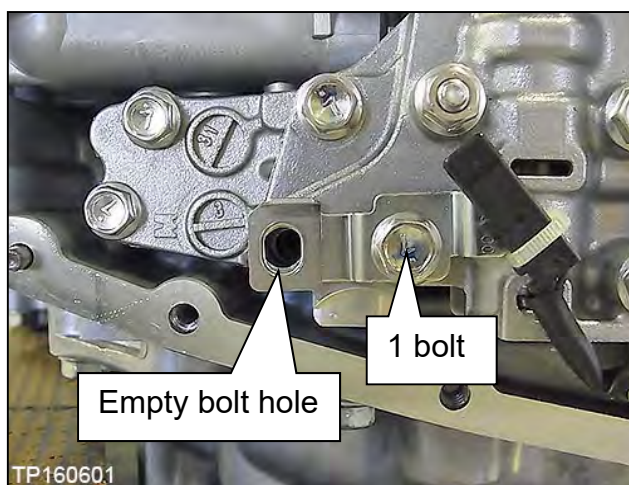

Figure 158
120. Install the CVT fluid temperature sensor bracket to the control valve with one (1) bolt (Figure 158).